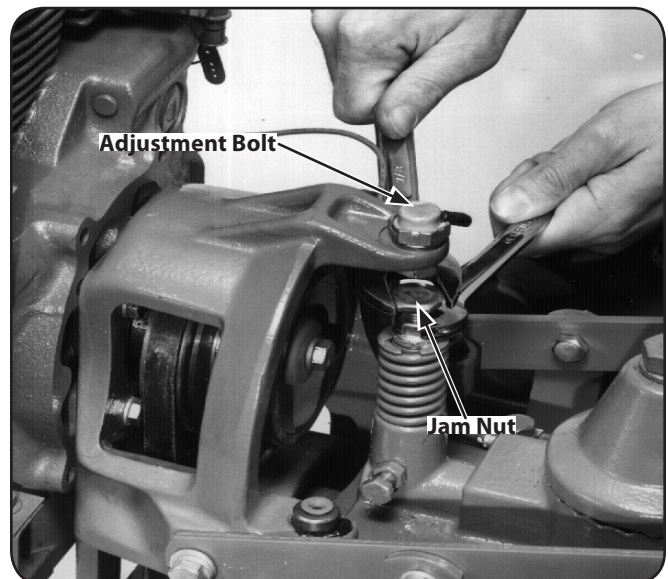

Figure 6-23
- Place a $\frac{7}{8}$ " wrench on the head of the reverse adjustment bolt and a $\frac{3}{16}$ " wrench on the jam nut below it. See Figure 6-23. Hold the bolt steady while loosening the jam nut three or four turns.
7. Check that the reverse disc is at least $\frac{3}{16}$ " away from the transmission drive pulley. Then hold the reverse adjustment bolt steady with one wrench while tightening the jam nut with a second wrench. See Figure 6-23.